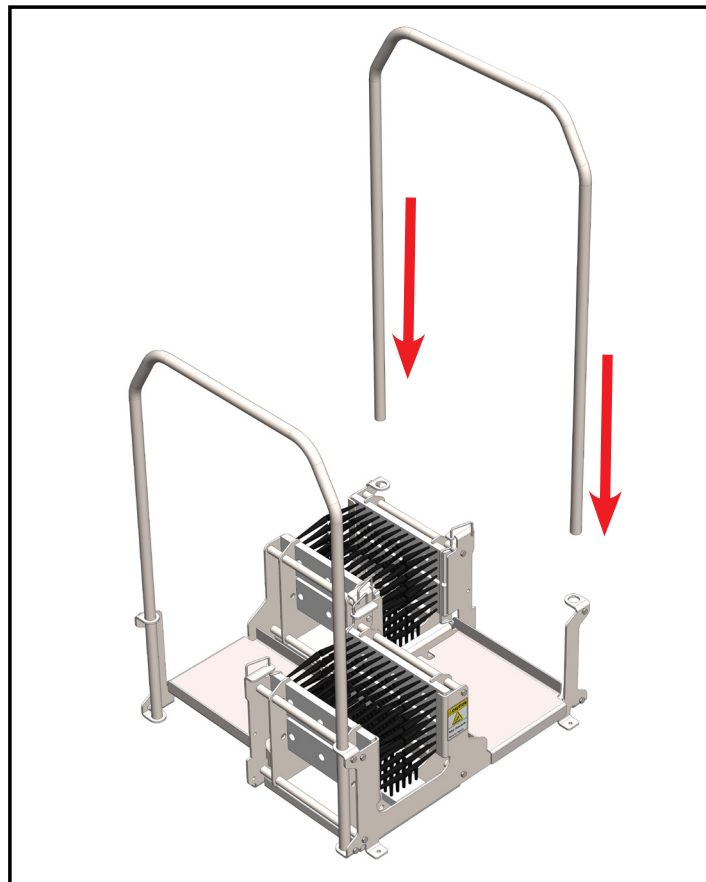

Fig. 4.1: Installing Handrail
1. Place handrail through the mounting brackets on each side of the unit [Figure 4.1].